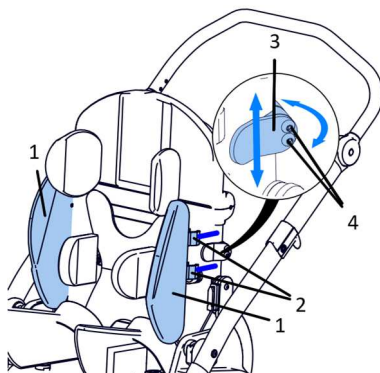

Fig. 27
Side supports Fig. 27 (1) are attached to the back profiles with hooks (2). The cover tilt limiter (3) determines the maximum cover deflection as well as the up-down position. The position of the limiter is adjusted by loosening the screws (4) and setting the limiter in the target position.